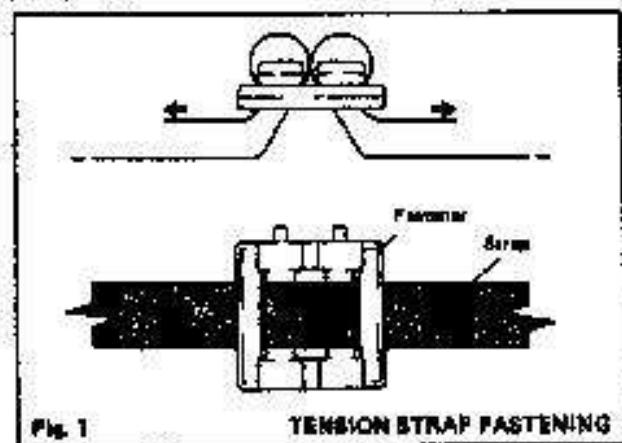

Fig. 1
The Ideal Mexico Slimline CF, 40 and CF, 55 models are floor-standing open-flued boilers, range rated, having outputs of 8.79 to 11.72kW (30 000 to 40 000 Btu/h) and 11.72 to 16.12kW (40 000 to 55 000 Btu/h) respectively. The boiler is supplied with an insulating blanket of aluminium foil backed fibreglass, covering the top and sides of the boiler body, and held in place by a securing strap. (See Fig. 1).
the flue cleaner cover, (4) - Fig. 1, and ENSURE